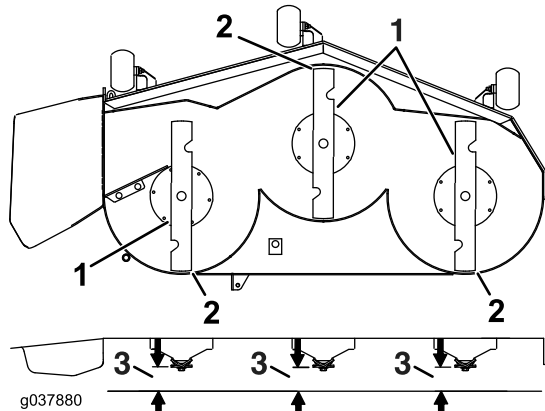

**Figure 82**
7. Check the front-to-rear blade level (Figure 82). Ensure the front blade tip is lower than the rear blade tip as shown in the block height and rake table. If adjustment is needed, continue with this procedure.